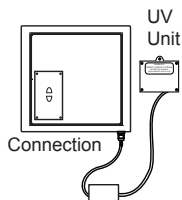

Figure 2
- Turn the breaker to the spa OFF. DRAIN YOUR SPA. Disconnect the CLEARRAY System from the controller, Figure 2.